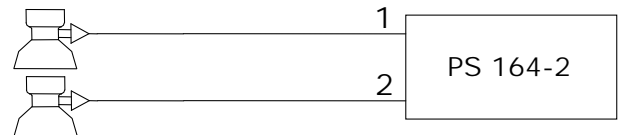

Fig. 4.5 - Diagram to use two different gas
- The flowmeter in the gas source (bottle or pipe) if the gas is different from the welding gas (see Fig.4.5). The connection is made at the rear side of the power source (inlet gas 2).